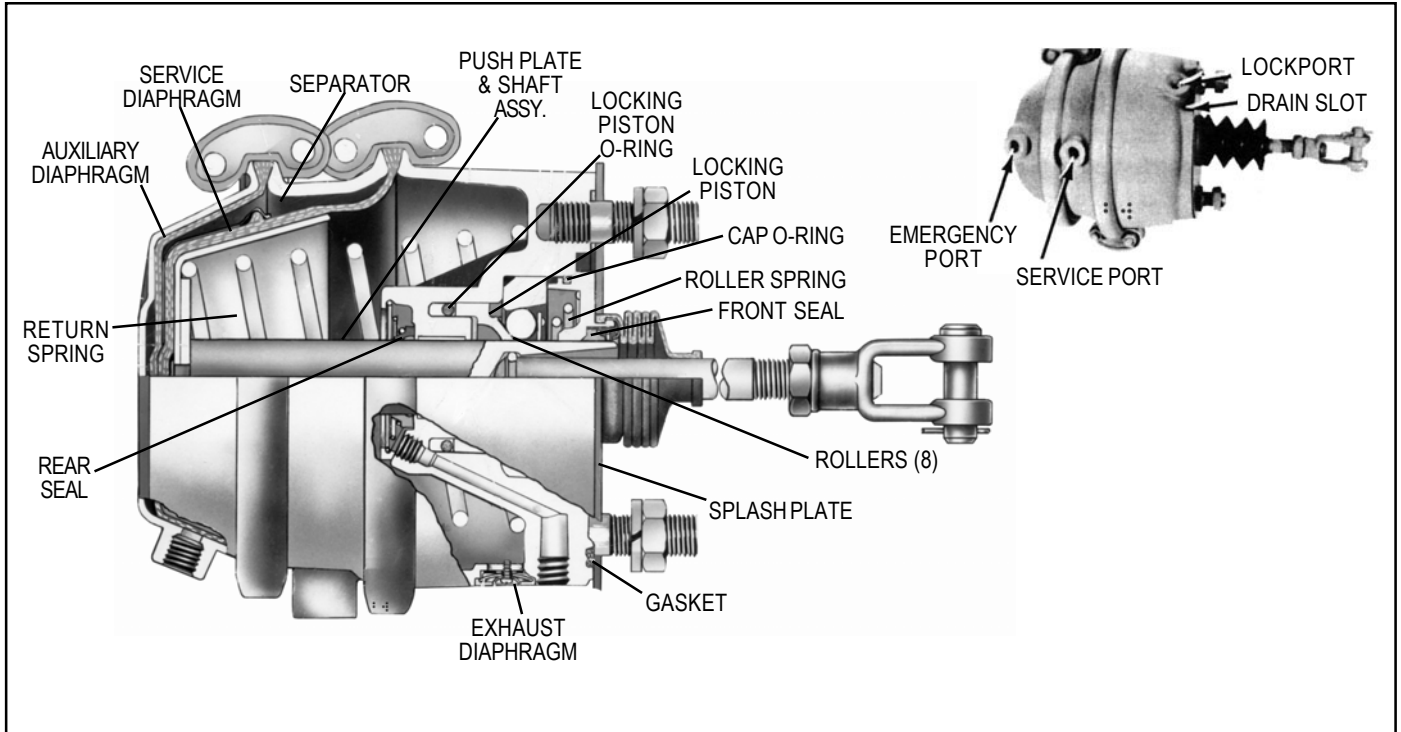

FIGURE 1 - DD-3™ SAFETY ACTUATOR
The DD-3™ and SD-3™ are air operated actuators with a mechanical push shaft lock. The DD-3™ actuator (see Fig. 1) is a double diaphragm device which provides braking for service, emergency, and parking. It is available in two sizes: type 24 and type 30.
OPERATION - DD-3™ ACTUATOR (FIG. 1) - NORMAL RUNNING
12. Position cap on roller spring. DRAIN HOLE IN CAP SHOULD BE POSITIONED SO IT LINES UP WITH DRAIN AREA of non-pressure plate. Press cap down and hold while installing four (4) machine screws evenly and securely. Install new felt breather.
17. (DD-3™ Actuator) The DD-3™ actuators are supplied with two different diaphragm constructions. Figure 1 shows one construction with a metal separator between the service and auxiliary diaphragms. The separator snaps over a bead on the service diaphragm. The service diaphragm piece number for this assembly is 246371 for the type 30 and 246365 for the type 24.